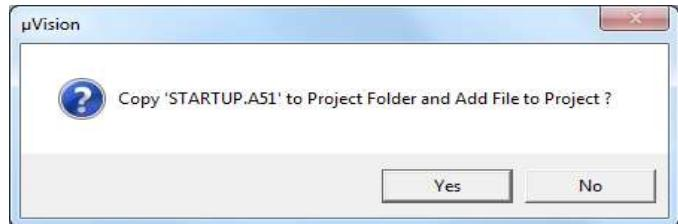

Figure 9.6: A pop-up window.
- 5) Go to Atmel → Select AT89S52 and press OK. A pop-up will appear as shown in Figure 9.6. Press No.